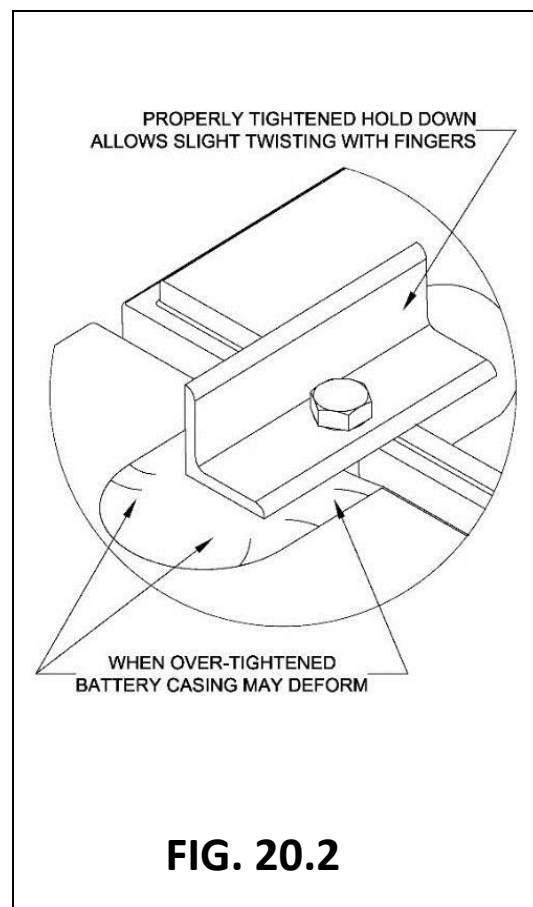

FIG. 20.2
20.3.4. Do not overtighten! A properly tightened battery hold down will allow slight twisting movement with fingers (FIG. 20.2).
When over-tightened, battery cases will be visibly distorted in the areas where the battery hold down is in contact with the battery casing (FIG. 20.2).
An over-tightened nut will cause stress on battery cases that could result in cracks and leaking of battery acid (FIG. 20.2).